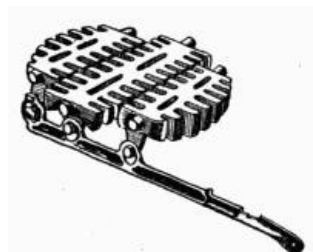

FIG. 1-a. Grate.
These grates are usually reversed by a stove shaker. (Fig. 1-a) shows a detailed drawing of a grate.) The housekeeper must understand how this is done in order to avoid reversing them when she shakes down the ashes. Two difficulties arise in reversing the grate when the stove is filled with fuel. The coal may be wasted by falling thru the part intended for wood, or pieces of fuel may fall between the parts so that they cannot be
3. Drafts or Dampers. There are from three to six dampers on a stove (Figs. 1 and 2), as follows: